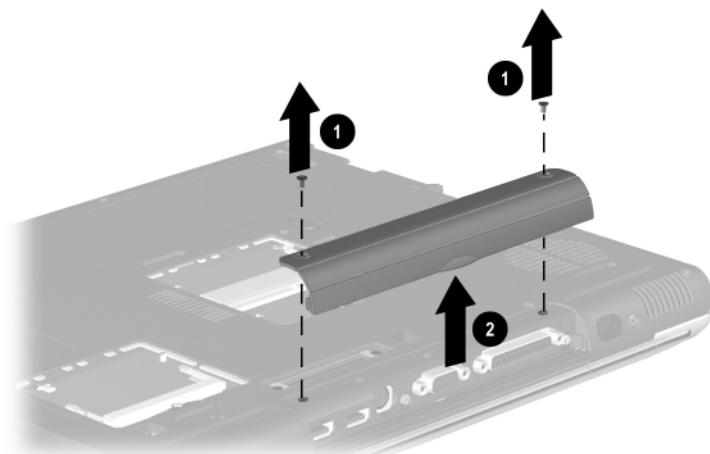

Figure 5-12. Removing the Connector Cover
3. Remove the two PM2.0 × 5.5 screws ① that secure the connector cover to the base enclosure (Figure 5-12).
5. Remove the connector cover from the base enclosure ②.